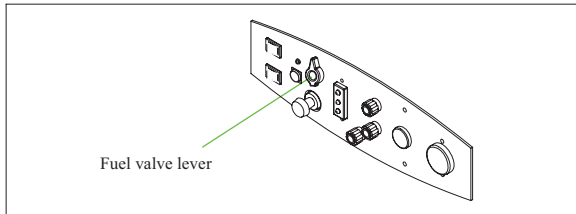

Fig.7
4.1 Turn the fuel valve lever to the ON position, see Fig.7.